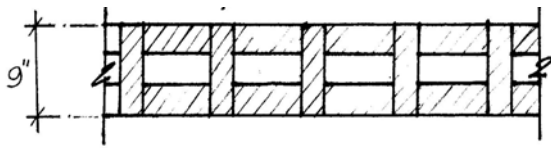

Fig 1A - Plan view
- The height of this first layer would be about 4" with the ends of the brick facing the outer and inner face of the wall (see fig 1A )